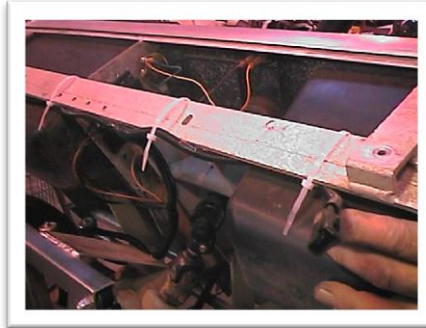

Figure 2 Headlight wiring
9. Select the head light connectors from the wiring harness and orientate them for the left and right hand headlights. The longer of the two headlight cables is for the passenger side. Use tie wraps to secure the routing of the harness wires. (Figure 2)